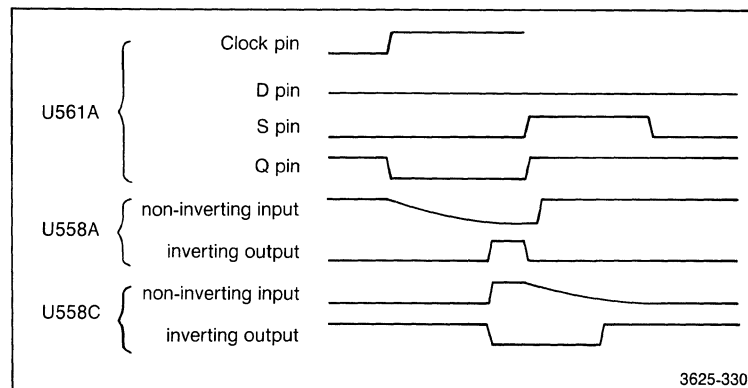

Figure 4-34. 91A08 even write-enable timing diagram.
Data must be clocked into the even acquisition memory at the same rate it is clocked out of the even register. However, because of propagation delays and set up times, the same clock cannot be used for both purposes. The even write-enable generator generates a new clock from EVEN CLK(H) to be used by the even acquisition memory. The output of the write-enable generator has two special characteristics: its rising edge is delayed for a specified time after the rising edge of the EVEN CLK(H), and the pulse is high for a specified period of time independent of EVEN CLK(H). Figure 4-34 shows a timing diagram for one cycle of the write-enable generator.
This ends the EVEN WE(L) pulse, and writes a low to the set pin of U561A, so the next clock pulse can be excepted. Refer to Figure 4-34 for a timing diagram of the generation of a WE(L) pulse.